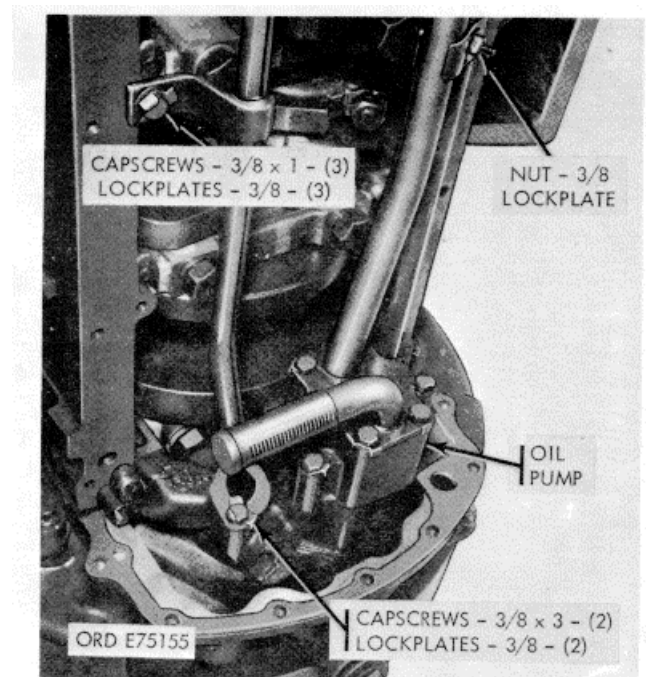
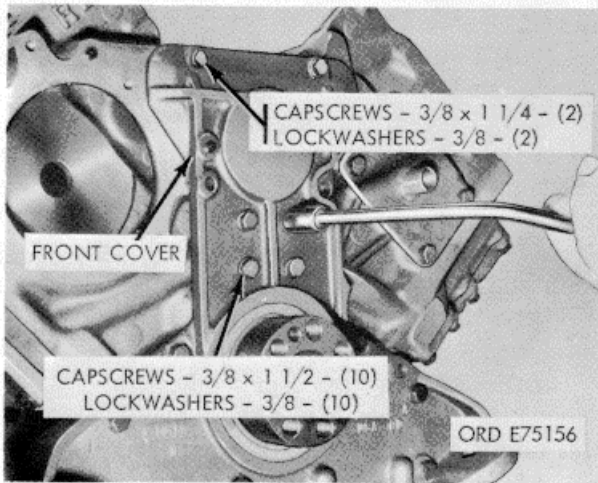
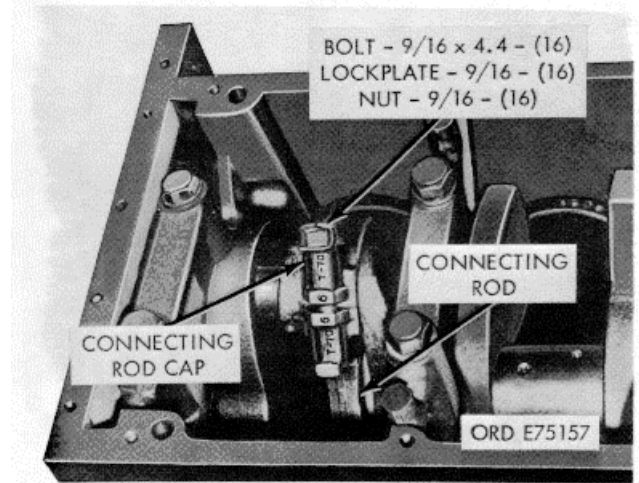

Figure 2-26. Oil pump assembly-removal/installation.
Figure 2-27. Front cover-removal/installation.
Figure 2-28. Connecting rod and piston assembly-removal/installation.
(4) Remove 12 cap screws, lockwashers, and flat washers securing oil pan to block.
(5) Remove pan and gasket.
m. Oil Pump Assembly (fig. 2-26).
(1) Remove cap screw, nut, lockplate, and clamps securing oil suction tube to block.
(2) Remove cap screw and lockplate securing oil by-pass tube to block.
(3) Remove four cap screws and lockplates securing oil pump to block.
(4) Remove pump and tubes from block.
n. Front Cover (fig. 2-27).
(1) Remove 12 cap screws and lockwashers securing cover to engine block.
(2) Remove cover and gasket. Pull straight out to avoid damaging the dowels.
o. Connecting Rod and Piston Assembly (fig. 2-28).